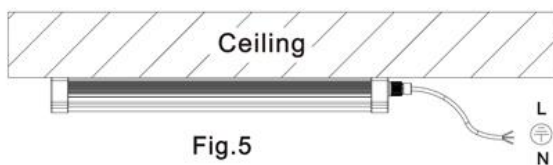

Fig.5
- Step 5: Connect the power. (as Fig.5)